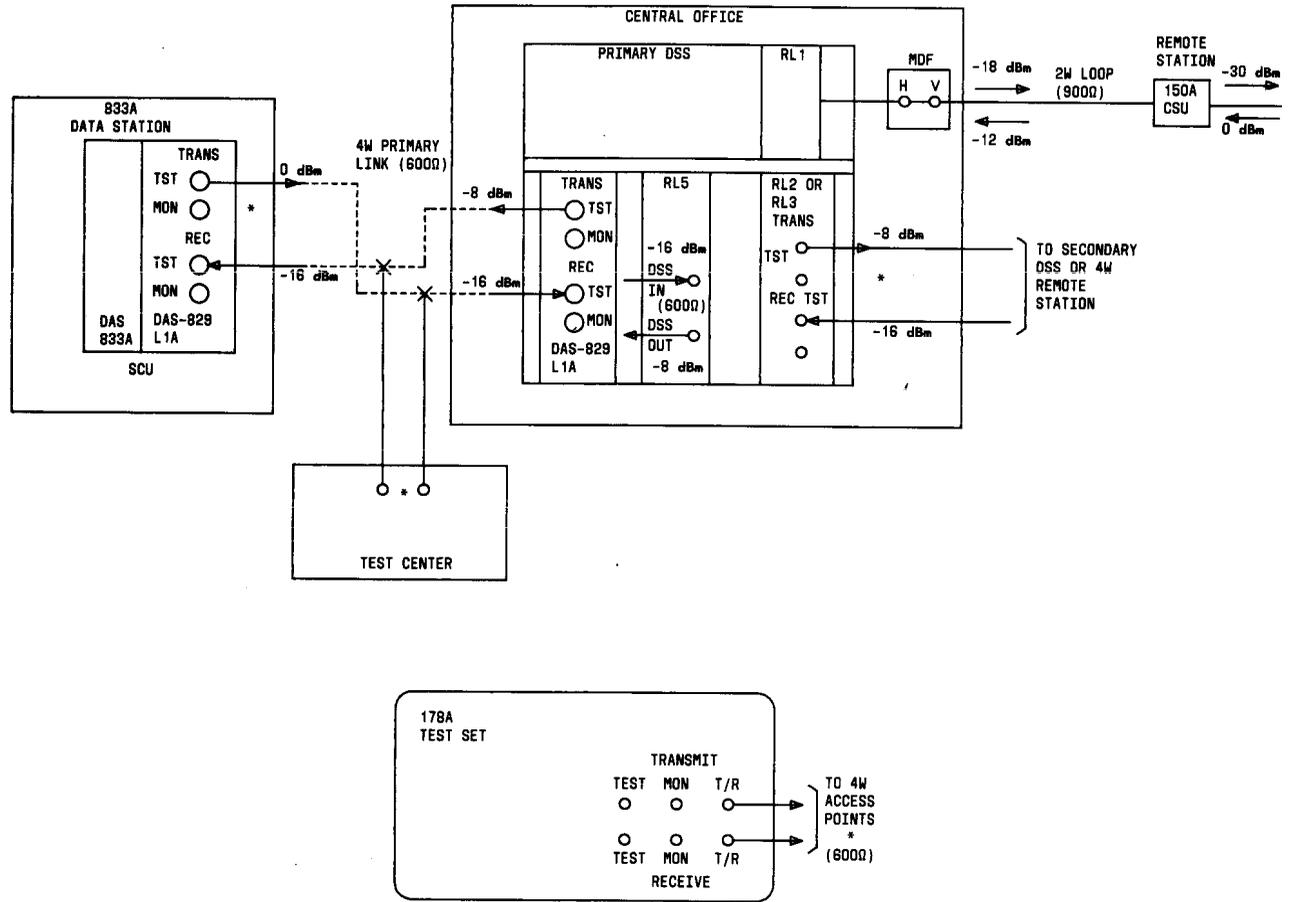

Fig. 2—Diagram Showing Test Access Points for 178A and Expected 1004-Hz Levels
3.02 Six jacks are located on the lower right corner of the set. Three jacks are on the TRANSMIT side and three are on the RECEIVE side. The transmit jack labeled T/R is used to connect the set to a circuit for sending signals from the test set. The receive T/R jack is used to connect the set to a circuit for receiving signals from a circuit. The various 4-wire circuit access points for the 178A test set are shown in Fig. 2. This figure also shows the expected 1004-Hz levels at these access points.
3.04 Figure 2 shows the 178A test set can connect directly to a DSS using the DSS IN and DSS OUT jacks on the RL5 circuit pack. The test set can also connect to the primary circuit at a test center that has access. Test access to the selector control unit (SCU) at the master station is made using the TRANS TST and RCV TST jacks on data auxiliary set (DAS) 829-type L1A.